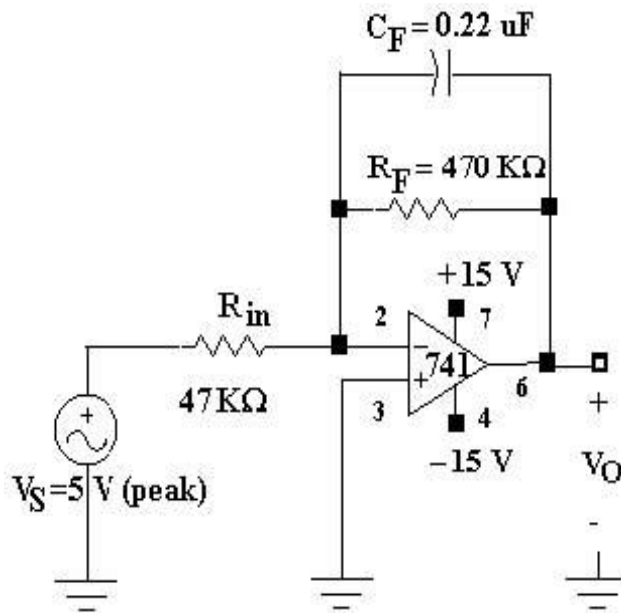

Figure 2
5.To investigate the use of an operational amplifier to perform mathematical integration, connect the circuit in Figure 2.